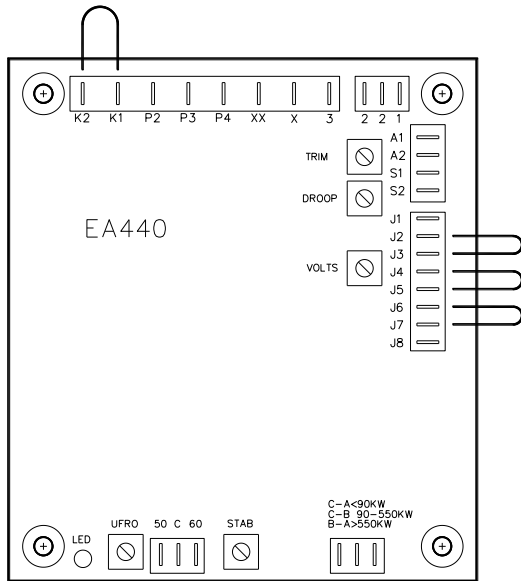
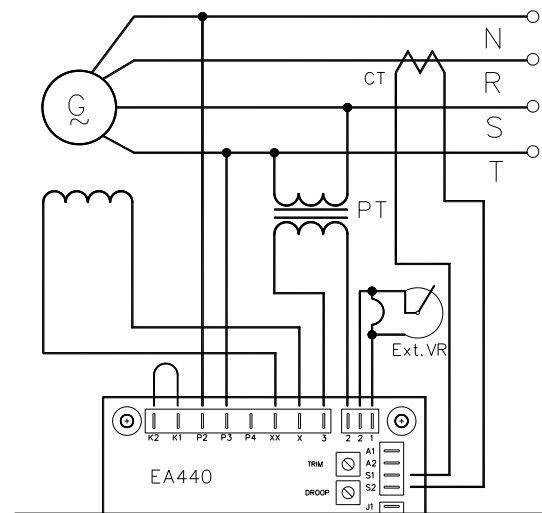

Figure 2 Bypass Drawing
Figure 3 Wiring Drawing
- 2.9 J1 – J8 : Jump select terminals, 2-3, 4-5, 6-7. please refer to Figure 2 and Figure 3.
5.1.1 When it is required to operate the regulator in parallel with an isolated or utility bus, in addition to the regulator provisions, a 10VA current transformer (CT) is required (See Figure 3). The CT is connected in a generator line and should deliver from 1 amperes secondary current at rated load.
5.2.1 For reactive droop compensation, connect the CT to it's respective regulator as shown on Figures 3.
wires are not connected well	Please refer to Figure 2
Terminal 3&2 no sensing input	Please refer to Figure 2